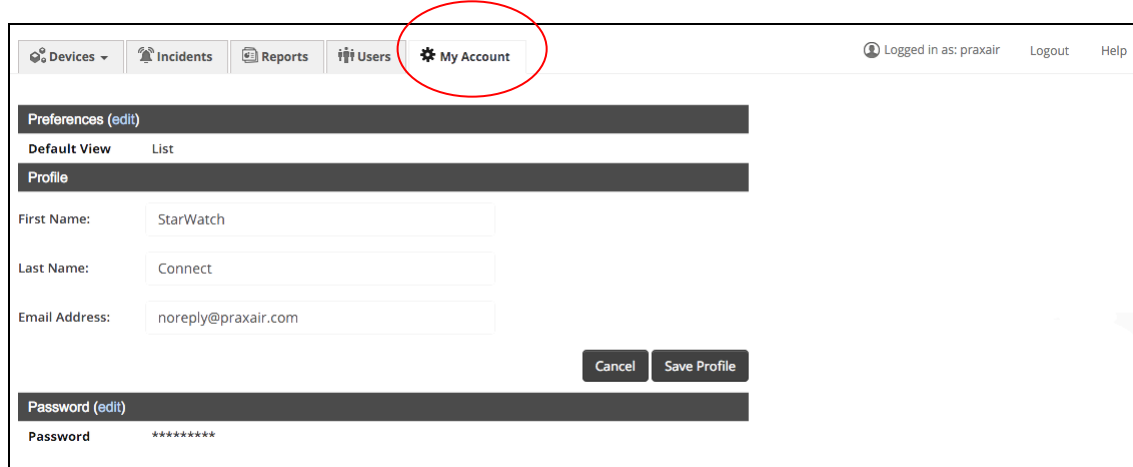

Figure 16: My Account Screen Example
1. Select the  **My Account** tab to modify your individual account settings (see Figure 16).